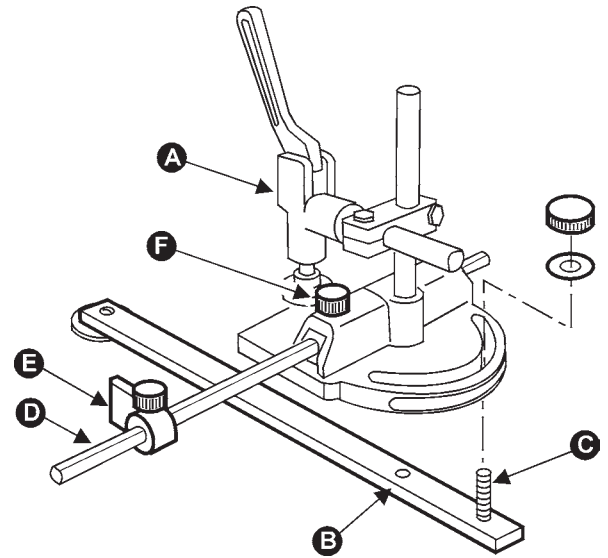

FIGURE 7
1. Assemble miter gauge (A) by placing bottom screw into hole on bar (B) and screwing knob and washer onto threaded rod (C), Figure 7. Tighten knob.
3. Insert rod (D) and work stop (E) into the miter gauge, making sure flat side of rod is facing up. Tighten knobs (F) on miter gauge, Figure 7.